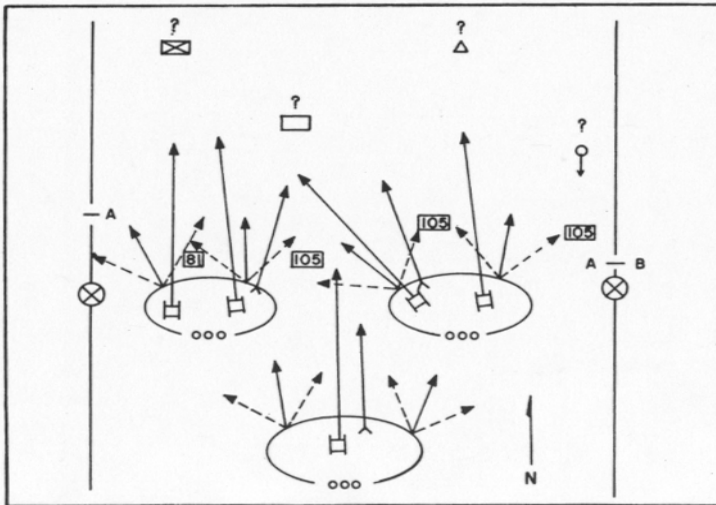

Figure 2. Defensive situation depicting Alfa company's protective fires and barrages and suspected enemy targets.
- Lt Moritzer:** "From the map we try to determine where the enemy will attack and in what formations (fig 2). We try to determine the most likely places for his artillery, mortars and OP's. Considering the weather and terrain and knowing the ranges of his weapons, we can usually eliminate some areas. However, it's still a tough job. Captain Jinks asked me and the mortar FO's to come here so that he can brief us on his plans and point out targets for our fires. We observers will then prepare our target lists. Working together, we do not duplicate targets. If the company has been allocated barrages to fit into the final protective fires, Captain Jinks will show us where he wants them. My battalion can provide three barrages, each approximately 200 meters wide. Because barrages are priority missions, a battery usually keeps its weapons laid on the barrage data when it is not firing another mission. When we fire a barrage, we use the maximum rate of fire for a given length of time or until the fires are lifted on order. The infantry mortars also fire barrages. My job as an FO requires me to insure the accuracy of